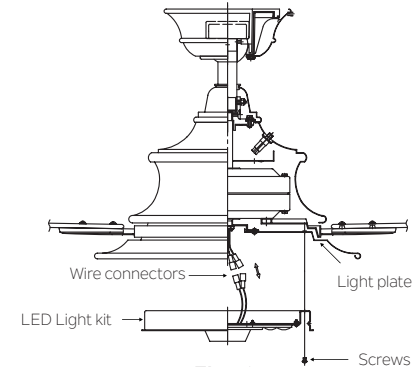

Fig. 18
Hold the LED light kit close to the light plate and connect the white wires from the socket plate and the fan by pushing the connectors together. Follow the same procedure with the black wire connectors. (Fig. 18)
Step 2. Tuck the connections neatly into the light plate. Place the key holes on the LED light kit over the 2 screws previously loosened from the light plate, turn the LED light kit until it locks in place at the narrow section of the key holes. Secure by tightening all three screws. (Fig. 18)